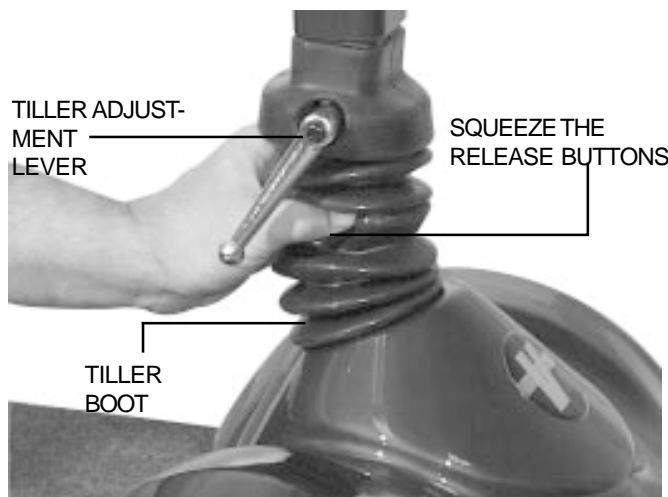

Figure 11. Tiller Adjustment
1. Turn the tiller adjustment lever anticlockwise until it is loose. If the tiller adjustment lever comes in contact with the tiller basket, pull it outward, turn it clockwise, and release it. Continue to loosen until you are able to move the tiller. See figure 11.